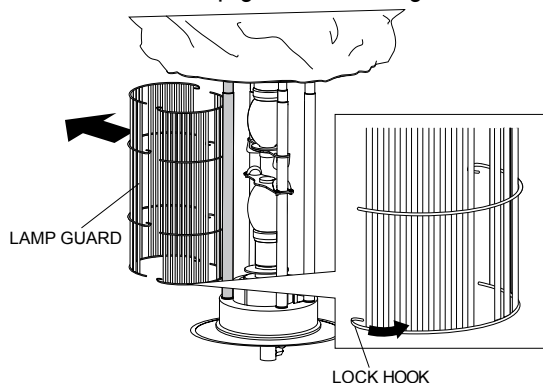

Figure 34. Removing Lamp Guard
2. Release the lamp guard hooks from the poles and remove the two lamp guards. See Figure 34.